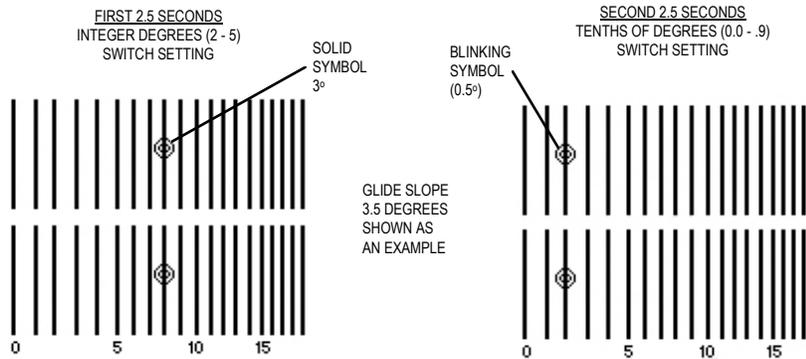

Figure 2-6. Glide Path Verification In Elevation.
- d. To verify the glide slope, repeat steps b. and c. of SETTING AND VERIFYING THE GLIDE SLOPE. Figure 2-6 shows an example of glide slope verification, you must observe that the symbols are on the range marks which correspond with the number of the desired glide path.